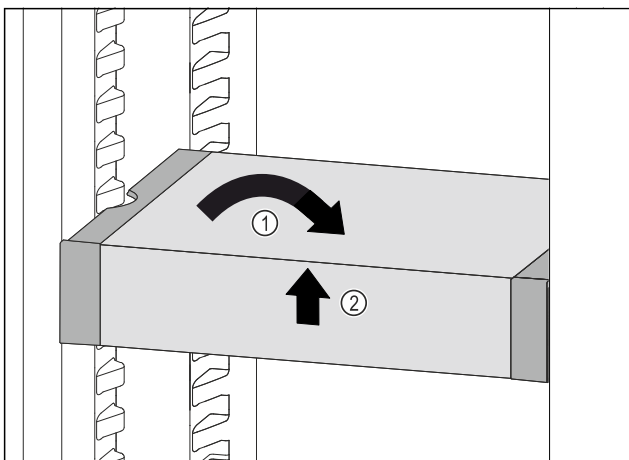

Fig. 115
- ▶ Set VarioSafe straight. Fig. 115 (1)
- ▶ Lift VarioSafe at the front. Fig. 115 (2)